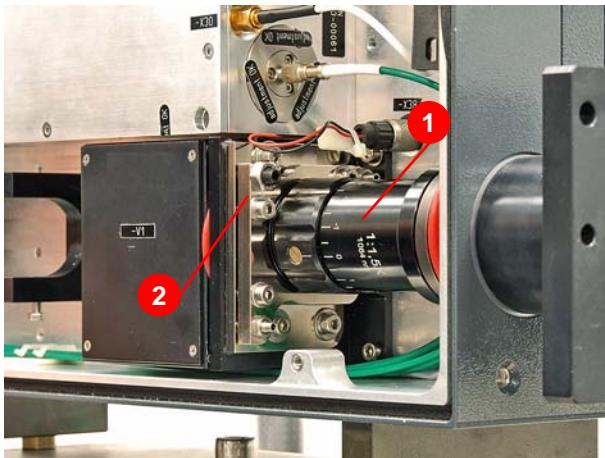

Figure 4.43 Dismantle the beam expander.
1. Remove the beam expander (1) (Figure 4.43) and the mount (2).